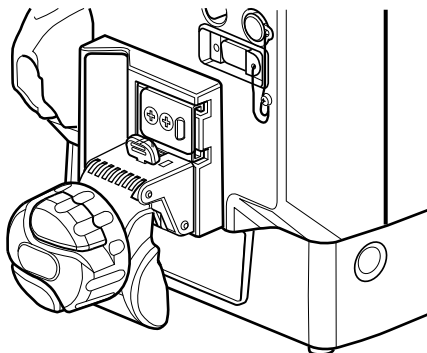
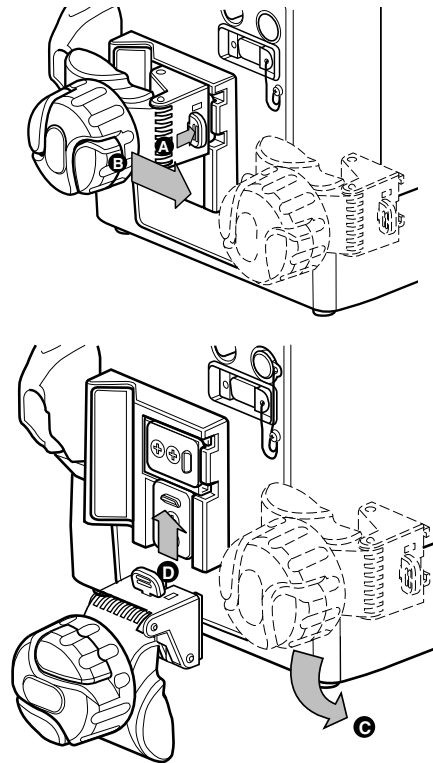

Figure 3-2 Headboard (horizontal) Mount
Figure 3-3 Changing the Mounting Bracket Orientation
1. Check to see if the clamp bracket is positioned for headboard mounting or other horizontal applications as in Figure 3-2. If so, continue with Step 2; otherwise, see “Changing the Mounting Bracket Orientation (Single Channel Pumps Only),” 3-3.
The instructions and Figure 3-3 illustrate how to change the orientation from a pole mount (vertical) to a headboard (horizontal) mount. The procedure for changing from a horizontal mount to a vertical mount is similar, except that the positions of the clamp and plate cover are the reverse of what is shown in the figures.
1. Press down and hold the latch (A in Figure 3-3) to release the mounting clamp from the plate.
2. Grasp the mounting clamp knob and slide the clamp off of the bracket (B in Figure 3-3).
3. Rotate the clamp counter-clockwise 90° (C in Figure 3-3) until the open end of the clamp is towards the floor (see clamp in Figure 3-2).
4. Slide the clamp up onto the plate until you hear the clamp lock into place (D in Figure 3-3). The clamp should now be positioned as in Figure 3-2.